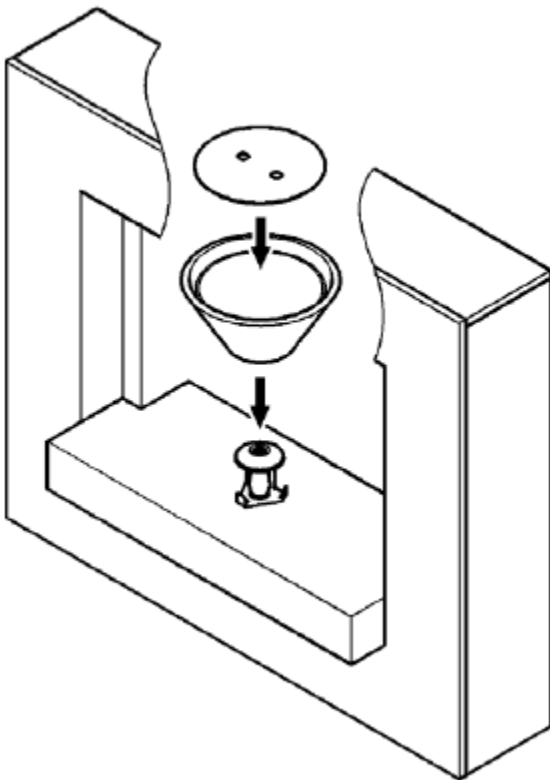

Figure 4. (Suite and bowl design may differ from that shown)
1. Locate the hole in the base of the bowl over the three location points around the lamp (See figure 4).
2. Place the fuel support into the top of the bowl as in figure 4.